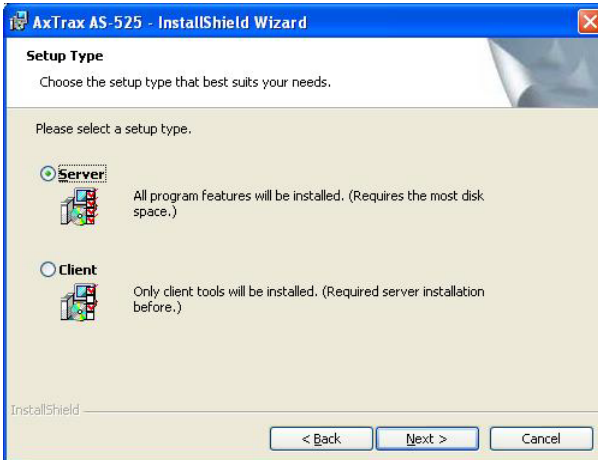

Figure 5: Select Setup Type window
6. Click **Next**. The Setup Type window opens (see Figure 5).